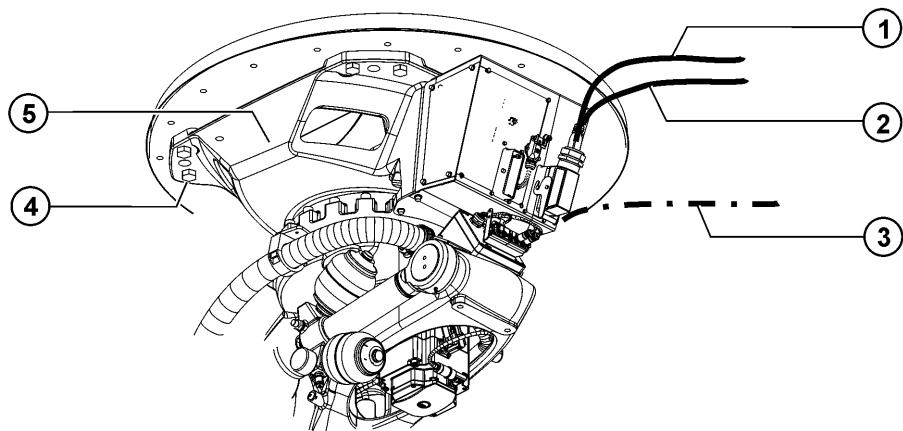

Fig. 12-4: Removing the robot
4. Secure the robot by activating the E-STOP device and then shut down the robot (**>>>** Fig. 12-4).